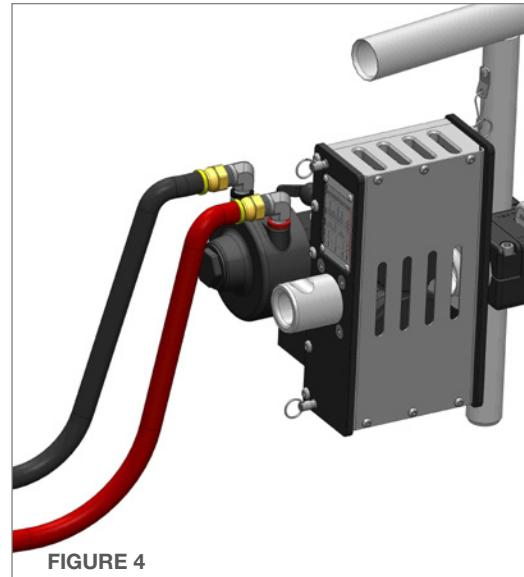

FIGURE 4
4. Push the back cover back into the closed position and secure the two Quick Release Pins on the top of the AUTOBOX® ABX-PRO TRACTOR. (**Figure 4**)
4. Pull the Dust Caps off the Pneumatic Air Fittings. Connect the Pneumatic Supply Lines from the CB-ABX-PRO-100-X Control Box to the AUTOBOX® ABX-PRO-100. Pay close attention to the color coded tabs on the air fittings of the Air Motor and the Control Box. Connect the red hose to the red banded air fittings and the black hose to the black banded air fittings. (**Figure 4 & 5**)